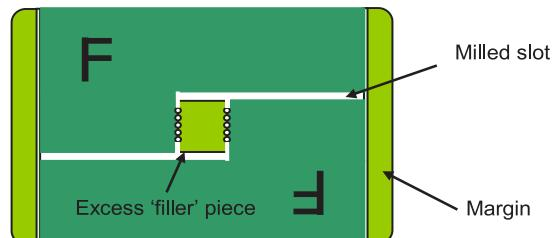

Figure 41: Two irregular boards with the excess connected via stamp holes.
- For larger pieces of excess material, the panel can be designed such that the excess pieces may be broken off using stamp hole connections. See figure 41.